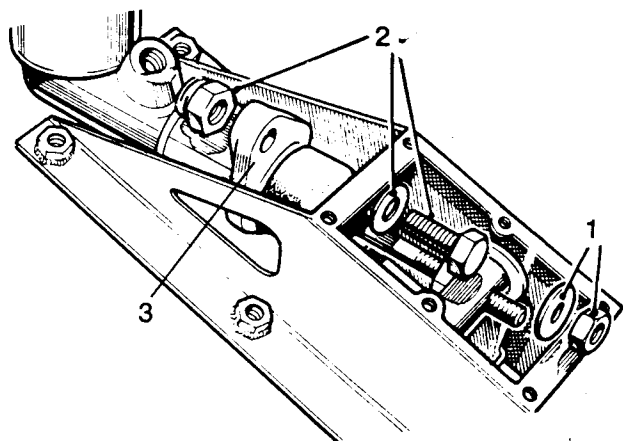

Fig H3.5
- (2) Refer to Fig H3.5. Disconnect the fluid pipe from the master cylinder.
- (3) Remove the top cover and gasket from the clutch pedal bracket.
- (4) Remove the fixing (1) from the end of the master cylinder push rod.
- (5) Remove the master cylinder fixings (2).
- (6) Remove the master cylinder (3) from the pedal bracket.